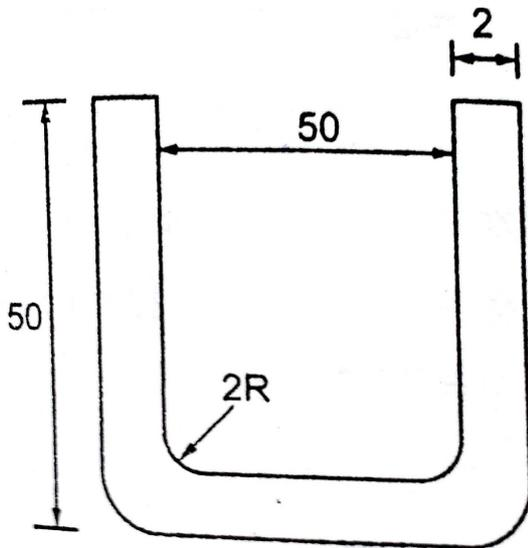

Fig 3
- b) A shell as shown in figure 3 has a height of 50mm and a diameter of 50mm. The corner radius is 2mm and work piece material is medium carbon steel and it is 2mm thick. Design a die for the yield stress of 20kg/mm^2 and shear stress of 18kg/mm^2 .